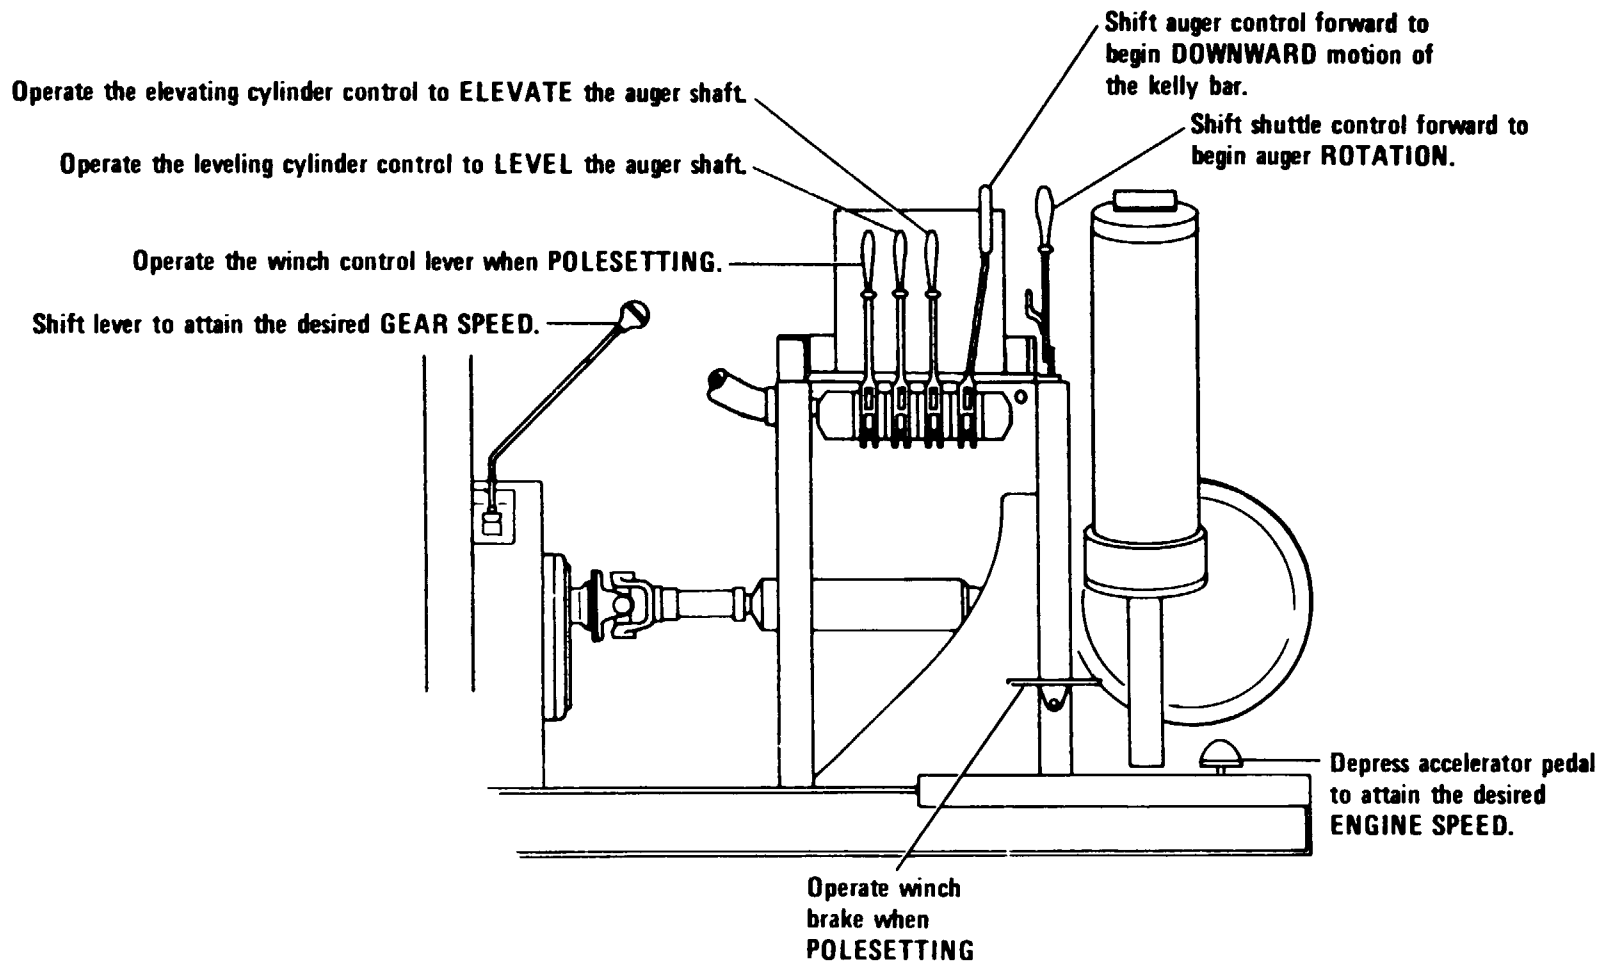

Figure 2-4. Auger operation
(1) Start the engine (para 2-8) and operate at idle speed until engine reaches normal operating temperature.
(2) Elevate the auger shaft as instructed in figure 2-4. Pull the elevating cylinder control valve lever to raise the auger shaft.
(3) Level the auger shaft as instructed in figure 2-4. The leveling cylinder positions the auger shaft vertically from left to right. Push the control valve lever to go right, pull for left.
(4) Shift the transmission to first gear, engage shuttle, and allow auger bar to rotate for approximately five minutes to allow lubricant to reach all gears.
(1) Position the auger shaft to elevation required by use of elevating and leveling control levers (fig. 2-4).
(2) Shift the transmission to gear required. Shift shuttle to forward position.
(3) Depress accelerator to increase engine speed.
(4) Push kelly bar lever (fig. 2-4) forward to lower auger and begin earth boring operation.
(5) When auger is deep enough in earth to be loaded with dirt, disengage shuttle and raise auger from hole by pulling kelly bar lever.
(6) With auger clear of hole, engage shuttle. Rotation will clean auger.
(7) Repeat steps (4), (5), and (6) until hole is to desired depth.